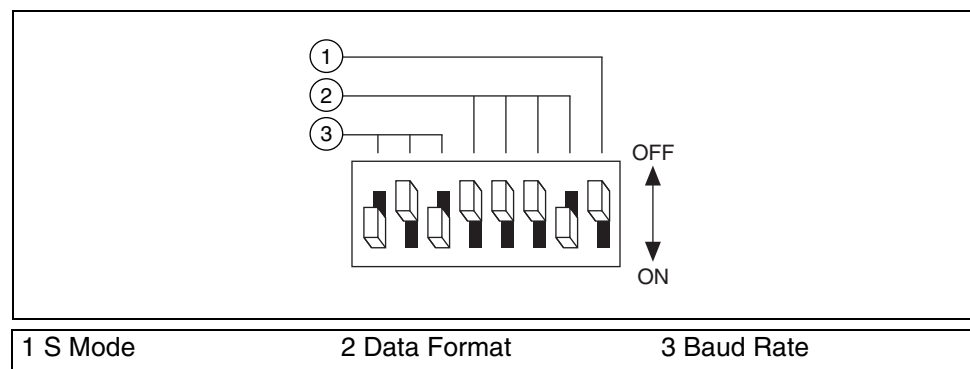

Figure 9-6. Serial Configuration Settings for the NI Instrument Simulator
- Set the left bank of switches on the side of the box to match Figure 9-6.